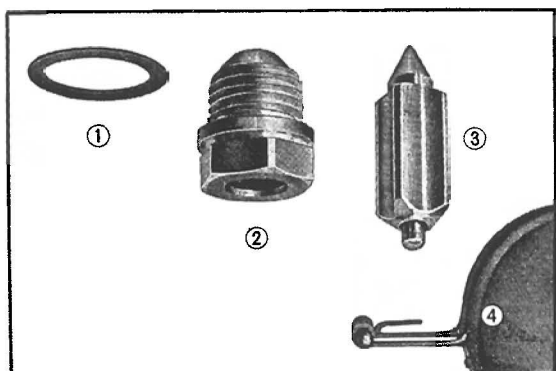

Fig. 3.127
The fuel coming from the fuel tank enters into the float chamber through passage from the fuel tank, float valve seat, and float valve. The float (11) is floated up accordingly with the fuel entry, float valve (6) is lifted by the float arm (7), and when the float valve (6) contacts the float valve seat (5), the fuel inside the float chamber (9) is used, and the fuel level is lowered, the float (11) is also lowered accordingly, the float valve (6) leaves the float valve seat (5); thus, the fuel enters into the float chamber (6). By repeating these operations, a constant fuel level can be maintained. The portion of float valve (6) which contacts float arm (7) is provided with spring to increase the durability against vibration (Fig. 3.127). Further, when the motorcycle is inclined or foreign matter sticks to the float valve seat, fuel overflows, and the fuel enters the cylinder; thus, the overflow line (8) has been provided to maintain the specific fuel level. When the fuel level reaches a specific level, the overflow line permits the fuel to be discharged. (Fig. 3.123)